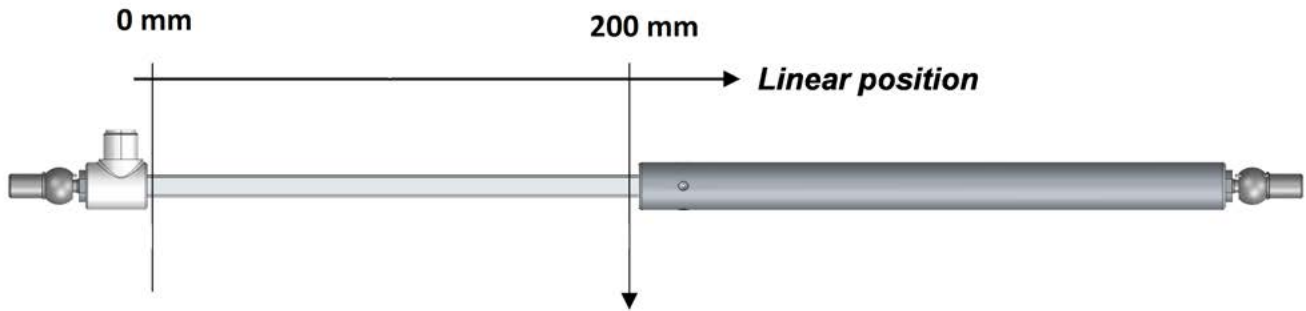

Figure 11. Mechanical position at 200 m
- **FS:** Figure 11 and Trace 2 show the mechanical position of the sensor and PDO1, which contains the associated measurement, respectively.